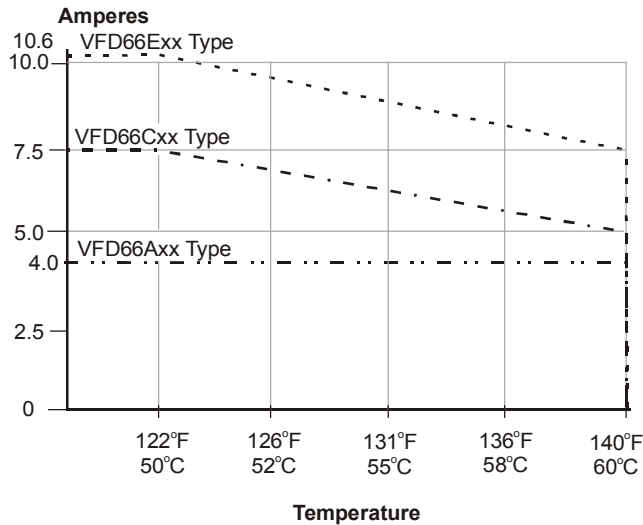
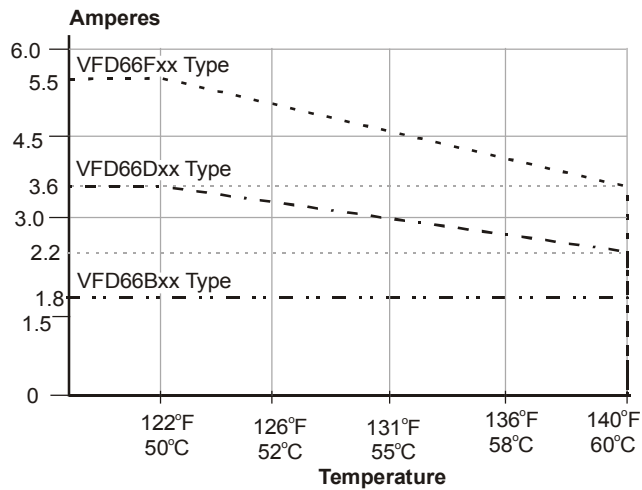

Figure 12: 208/230 VAC Temperature De-Rating
Figure 13: 400/460 VAC Temperature De-Rating
See Figure 12 for temperature de-rating for 208/230 VAC models. See Figure 13 for temperature de-rating for 400/460 VAC models.
For these examples, the control used is a VFD66Exx type. See Figure 12, Figure 13, and Table 7.
- If the temperature around the VFD66 control reaches 140°F (60°C), the rating is different. According to Figure 12, the VFD66 control is rated for only 7.5 amperes at 140°F (60°C).